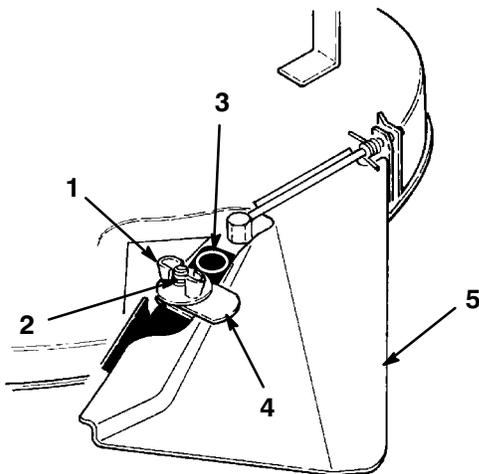

Figure 8
1. Remove the wing nut securing the discharge cover (Fig. 8) to the mower housing. **Never remove the grass deflector from the mower housing (Fig. 8).**